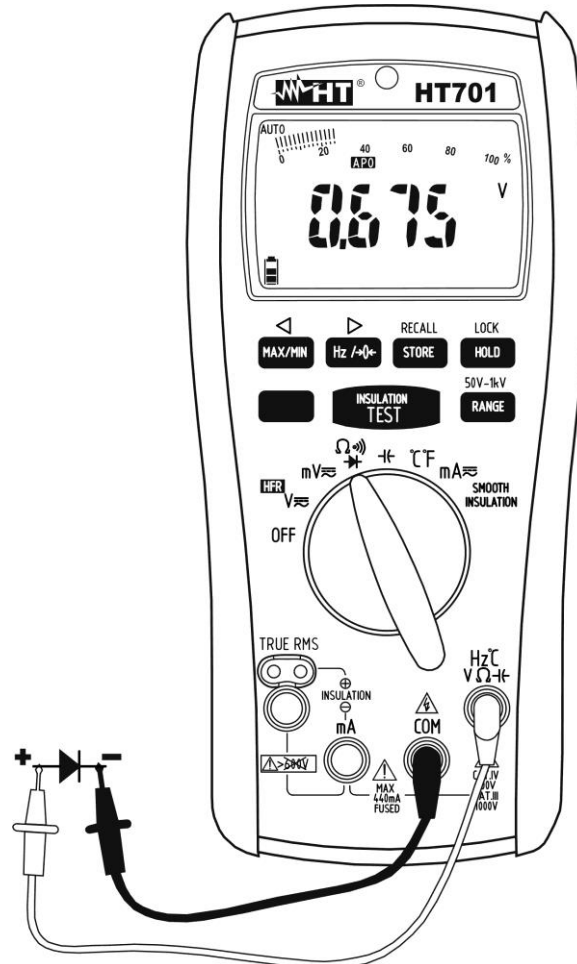

Fig. 7: Use of the instrument for diode test
4. Position the leads at the ends of the diode to be tested, respecting the indicated polarity (see Fig. 7). The value of directly polarized threshold voltage is shown on the display. For a good P-N junction, the instrument must show a value between 0.4 and 0.9V. If threshold value is equal to 0mV, the P-N junction of the diode is short-circuited.
5. If the instrument shows the message “**OL**”, the terminals of the diode are reversed with respect to the indication given of Fig. 7 otherwise, the P-N junction of the diode is damaged